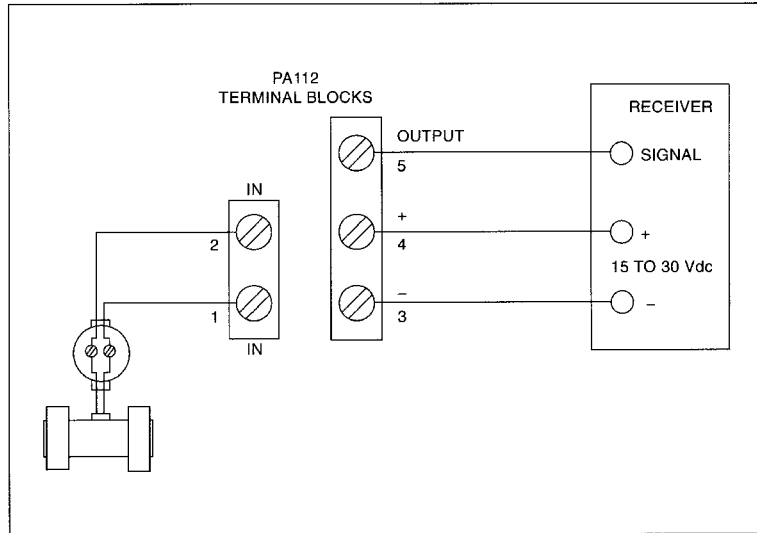

Figure 5. Wiring, remote mounting
A remote mounted amplifier which is within three feet of the turbine meter may be wired directly to the turbine meter using the wires provided with the meter. A remote mounted amplifier which is greater than three feet from the meter is connected using 18 AWG shielded cable. The maximum length of cable between the turbine flowmeter and the PA112 is 200 feet. This type of installation will also require a junction box, item 11. See Figure 5.